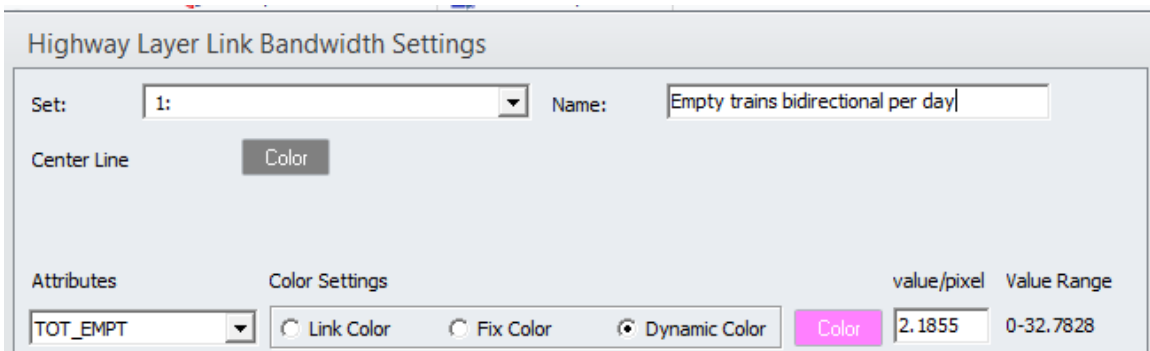

Figure 103 Name input frame
- 10) Enter in the Name input frame, the name of the map (in the example Empty trains bidirectional per day), in Figure 103.